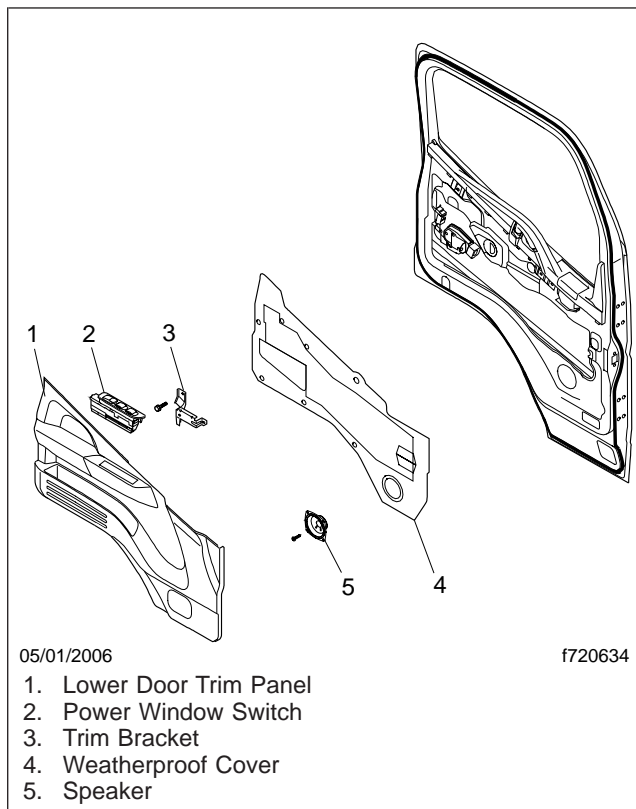

Fig. 1, Lower Door Trim
1. Remove the lower door trim panel from the door. See **Fig. 1**.